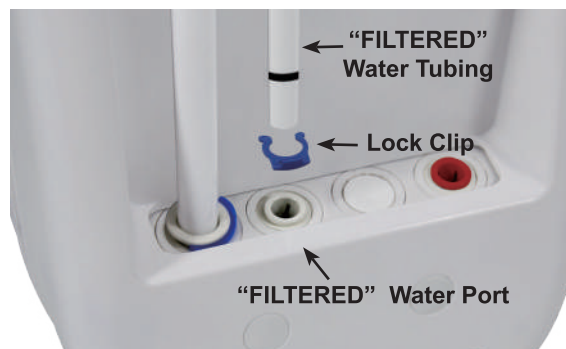

Figure 14
- Insert the other end of the tubing into the "FILTERED" water port (Figure 14), and pop the lock clip on the fitting.